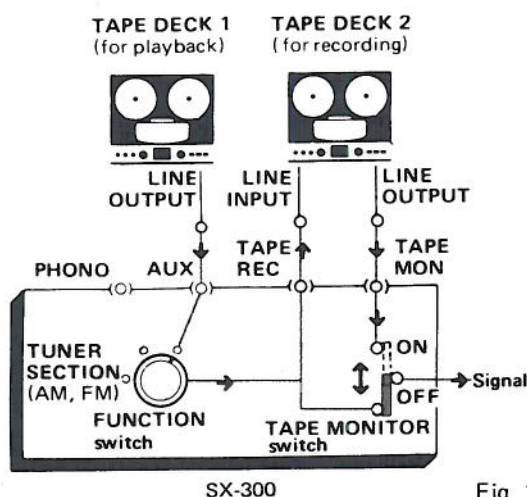

Fig. 12
1. Connect two tape decks as shown in Fig. 12.